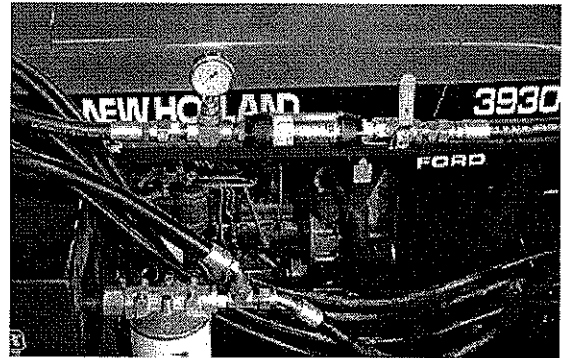

figure 39
1. Place a pressure gauge, flow gauge and gate valve between the motor run port on the valve and the rear tube on the brush hood (figure 39).